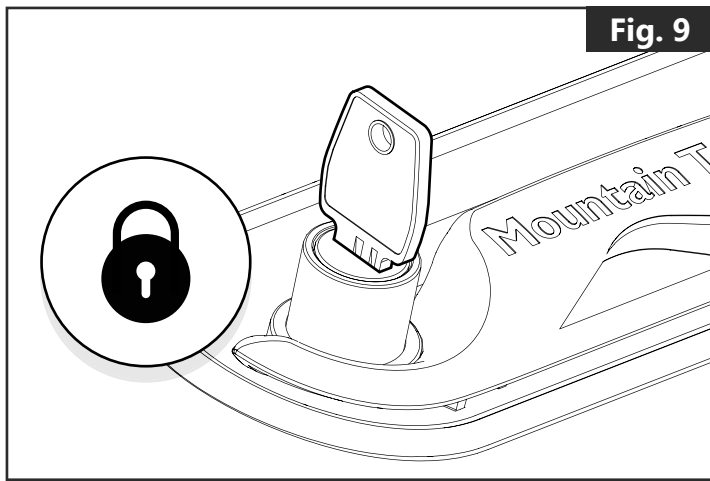

Fig. 9
- Make sure the Roll cover is unlocked (**Fig. 9+10**)